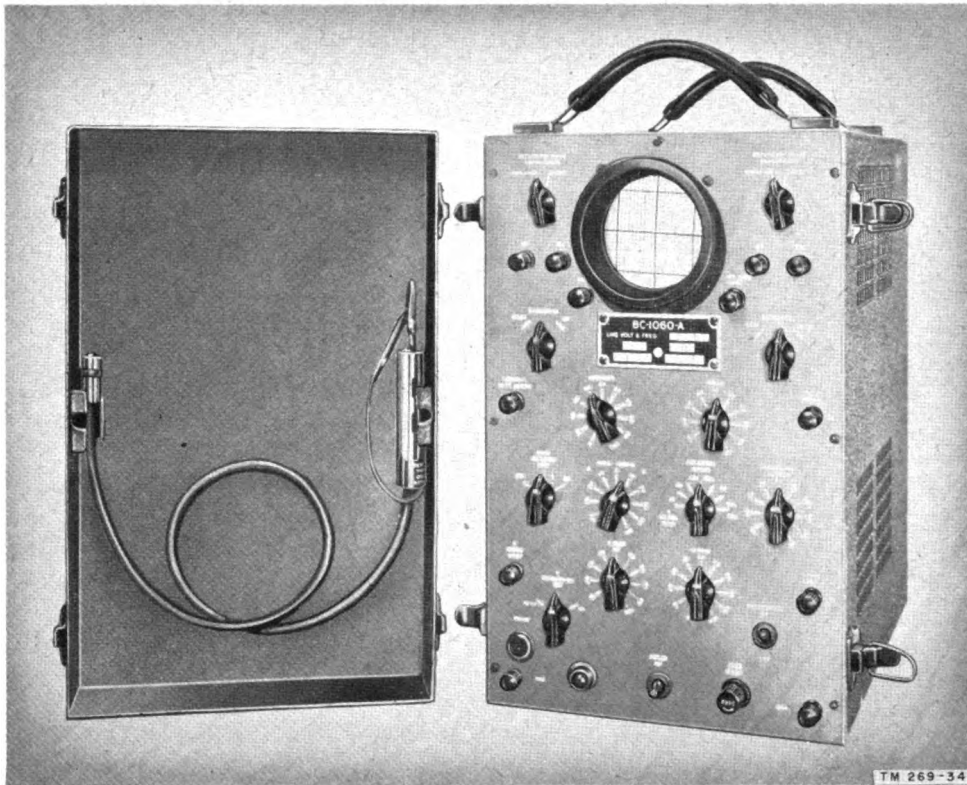

Figure 35. Oscilloscope BC-1060-A.
- (2) *Oscilloscope BC-1060-A (fig. 35)*. This oscilloscope is used for observing and measuring pulse and video waveform voltages. TM 11-2526, Oscilloscope BC-1060-A, gives complete information on Oscilloscope BC-106-A.